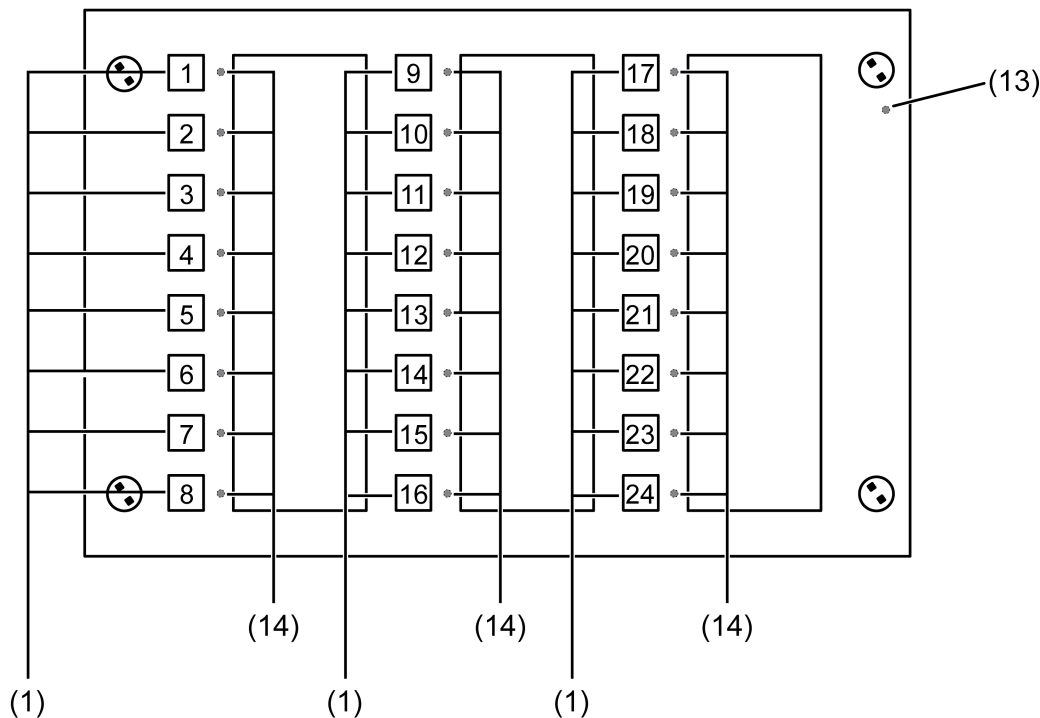

Figure 6: Arrangement of the control surfaces and the LED
The front end of the device consists of 24 control surfaces (1) functionally separated from each other, 24 three-colour LEDs (14) and a programming LED (13). The capacitive control surfaces are behind the screwed on design glass plate and enable operation of the device pushbutton functions (figure 6).